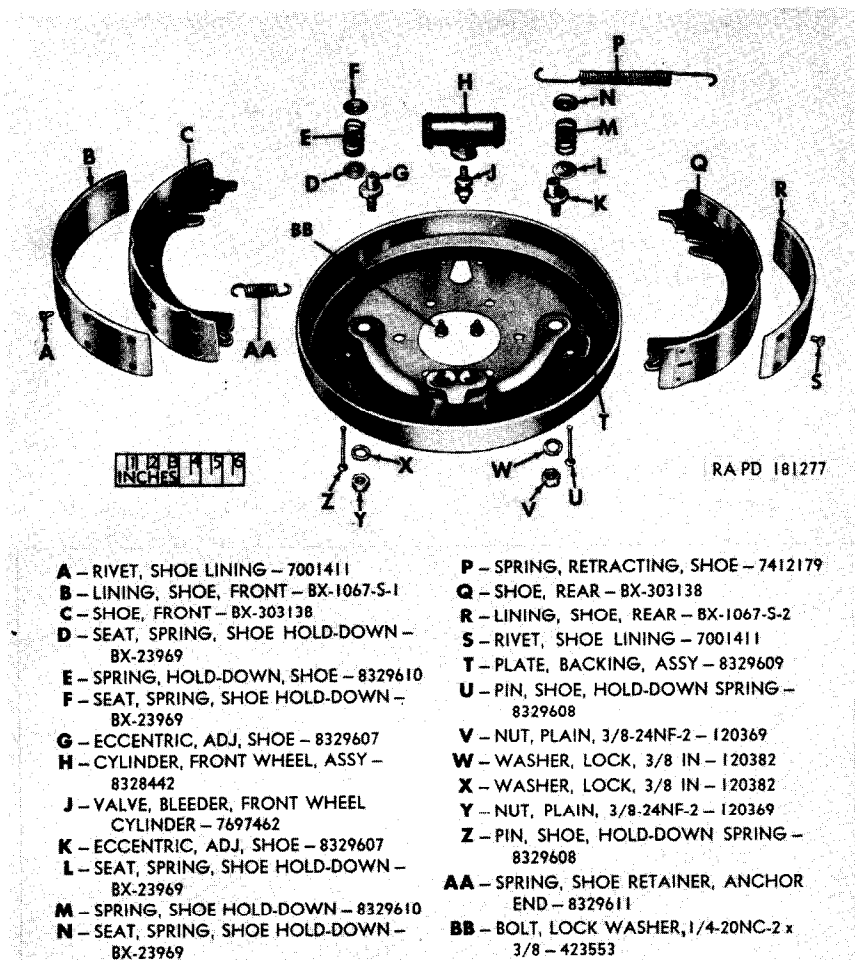

Figure 141. Service brake—left front assembly—disassembled view.
d. *Disassemble Service Brake Assembly* (fig. 141).
- (3) *Shoes and linings* (fig. 141). Inspect front and rear shoe linings (B and R) for wear, glazing, and evidence of brake fluid or grease leakage. In the event of brake fluid leakage, repair wheel cylinders (TM 9-1827C). If grease is leaking from rear axle, replace rear axle grease slinger (L, fig. 127) and rear axle shaft outer oil seal assembly (J, fig. 127). If front axle is leaking grease, replace the inner axle shaft oil
- (4) *Backing plate assembly* (fig. 141). Inspect backing plate assembly (T) for cracks, warpage, or distortion. Replace backing plate assembly if damaged.
- (5) *Shoe holddown springs, retracting spring, and retainer spring* (fig. 141). Replace the shoe holddown springs (E and M),
- (6) *Shoe adjusting eccentrics* (fig. 141). Inspect shoe adjusting eccentrics (G and K) for wear and damage. Replace the eccentrics, if necessary.
- (3) *Reline front and rear shoes.*
- (a) Remove shoe lining rivets and strip shoe lining from shoe (C and Q, fig. 141). Clean face of shoe thoroughly.
- (b) If brakedrums have been refinished ((2) above), either install the correct oversize linings or install shims, equal in thickness to metal removed from brakedrum, between the lining and the shoe so that arc of lining will be same as that of brakedrum.
(fig. 141)